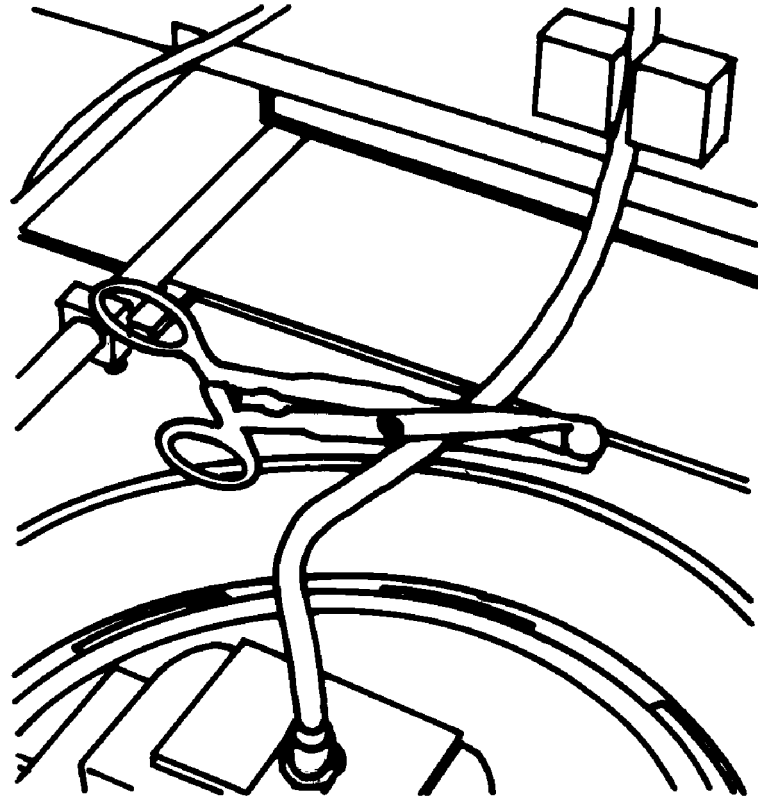

Figure 6-16: Correct clamp placement for predilution
- 1 Clamp the clear tubing between the RCD and the rotating seal (Figure 6-16).
- 2 Clamp the clear tubing between the RCD and the rotating seal (Figure 6-16 on page 6-18).
- a Clamp the clear tubing between the RCD and the rotating seal (Figure 6-16 on page 6-18).